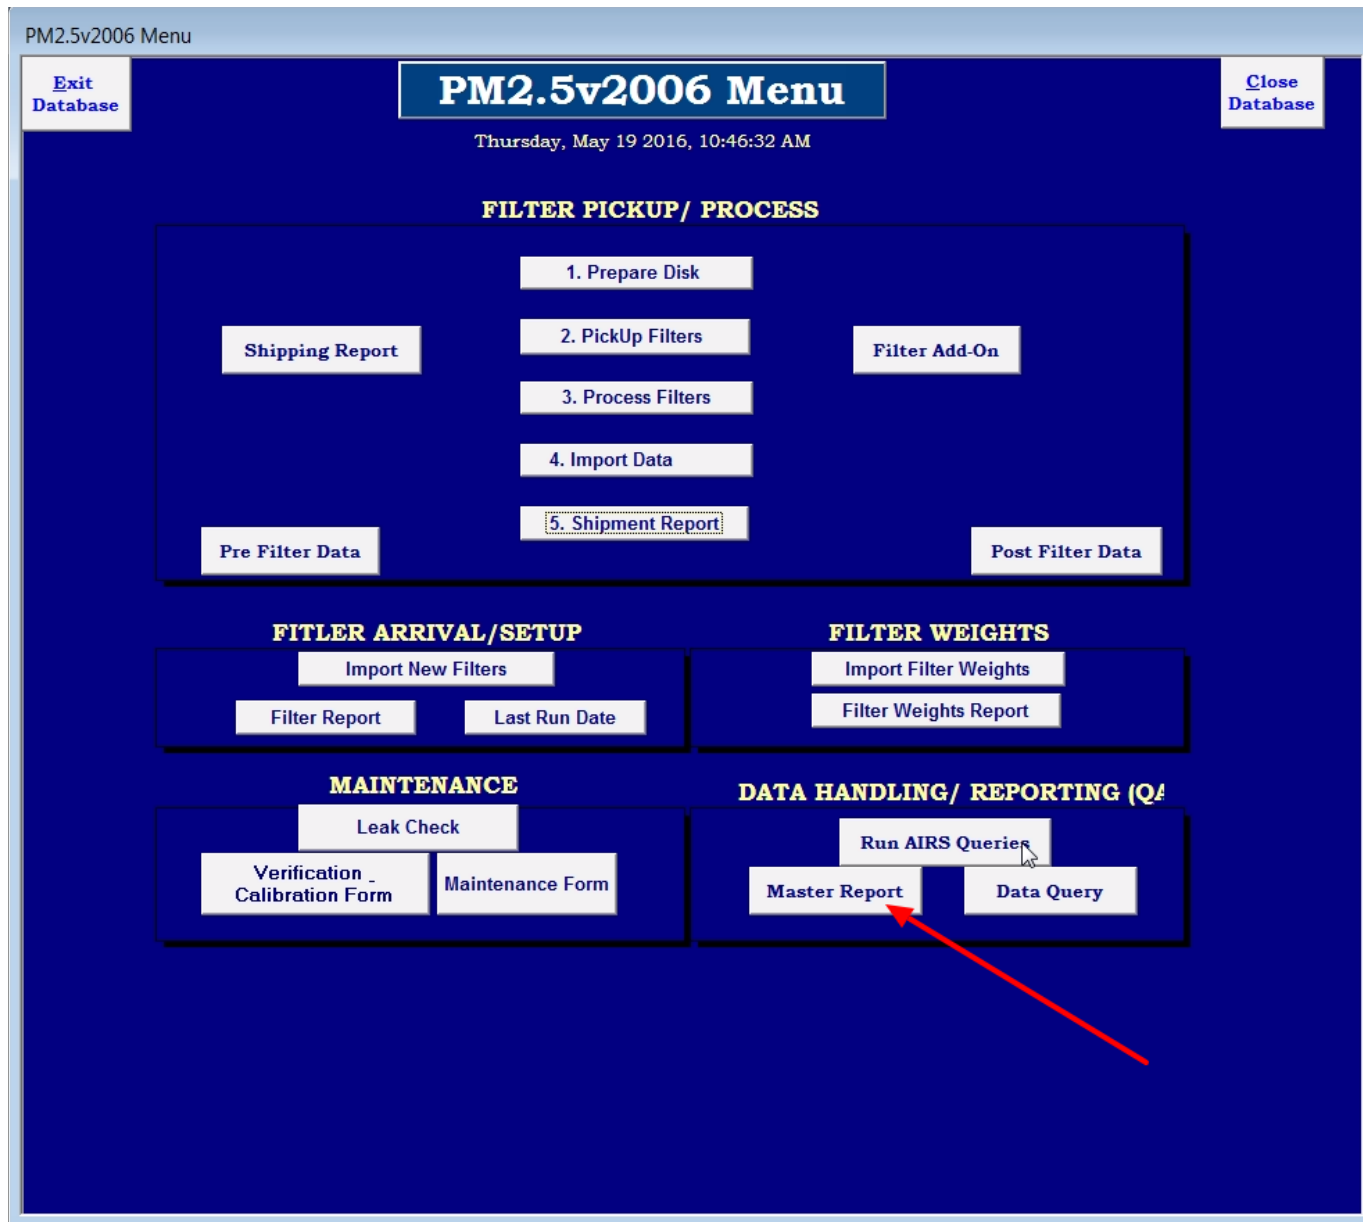

Figure 35: Master Report Button
6.6.1.1 Open Access (S:\PM_{2.5}\DATABASE\PM_{2.5}V2006). Go to the "Data Handling/Reporting(QA) box Press the "Master Report" button. (see Figure 35)